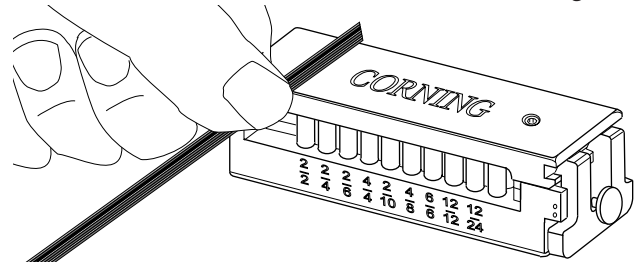

Figure 9
- Hold the ribbon 2.5 cm (1 in) from its end (Figure 9).